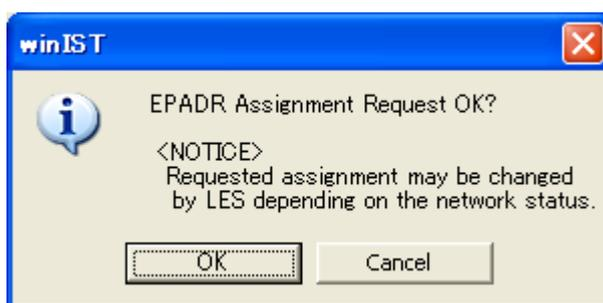

Fig. 4-34-2a EPADR Assignment Request confirmation dialogue box
Step 9. Click [Request] button when setting is completed, then confirmation dialogue box is displayed.(Fig. 4-34-2a)